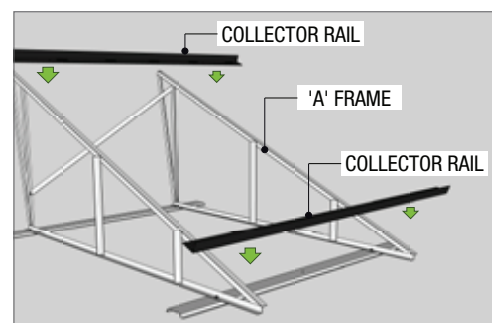

Fig 3
5. Place the bottom collector mounting rail at the lower end of the 'A' frames, centralise and bolt into position (Fig 3)
6. Measure up the 'A' frame the required length of the panel and fit off the upper collector mounting rail (Fig 3)